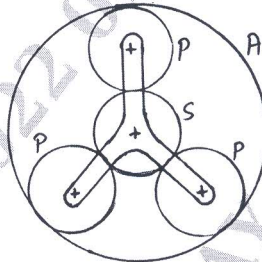

Fig.Q4(a)
- 4 a. In an epicyclic gear train as shown in Fig.Q4(a), the pitch circle diameter of the annular wheel A is 425mm and the module is 5mm. When the annular wheel is stationary, the spider which carries 3 planet gears P of equal size has to make one revolution for every 6 revolutions of the driving spindle carrying sun wheel S. Determine the number of teeth on all wheels.